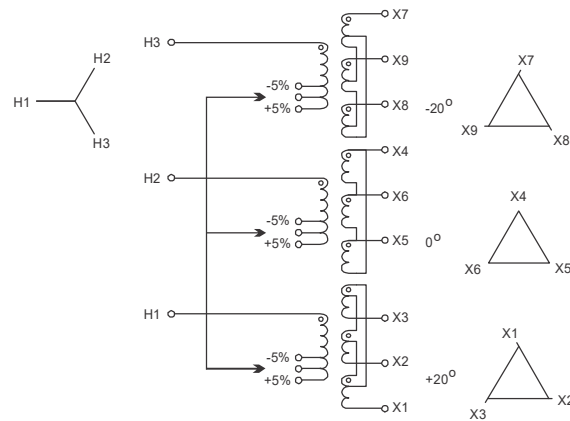

Figure 7: Main Transformer
Each secondary winding is connected to a dedicated 6-pulse, full-wave bridge rectifier that converts AC to DC, as shown schematically in Figure 7.
A typical 4160VAC inverter contains eighteen (18) cells, arranged 6 cells per phase as shown in Figure 7. The cells are connected in series within each phase, and the phases are connected in parallel across the internal DC bus. DC voltage is divided evenly among the cells in each phase.